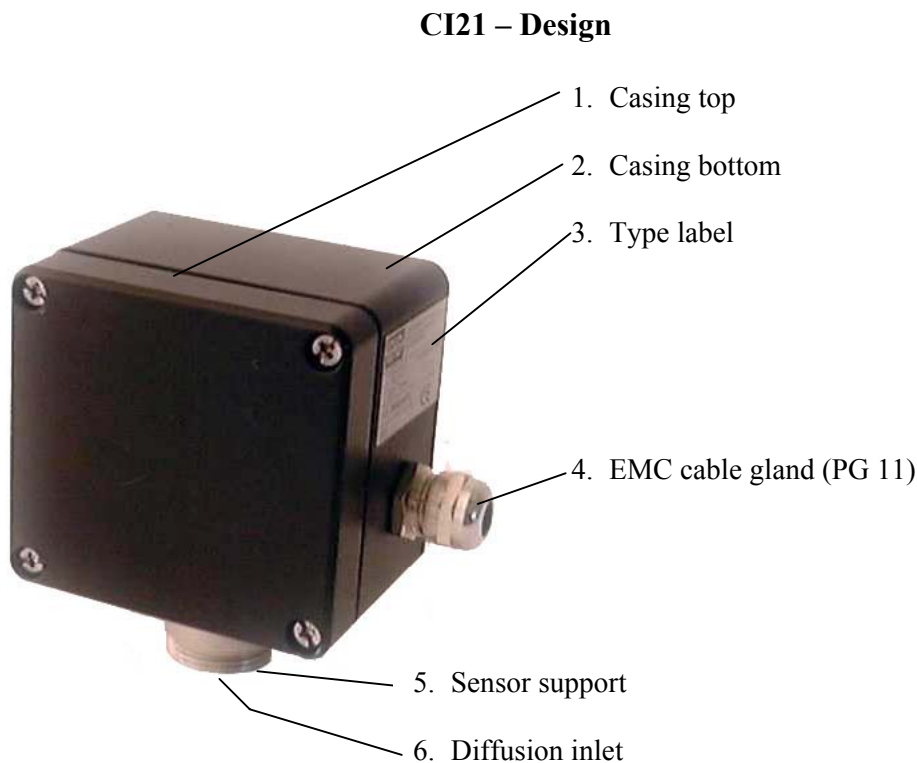

Fig. 2
The design of the CI 21 is shown in fig. 2. The sensor is mounted in the sensor support (pos. 5). The gas enters the sensor chamber through the diffusion inlet (pos. 6). The casing (pos. 2) includes a resin encapsulated p.c.board with electronic components. The electronics convert the measurement signal into the output of 0.2 .. 1 mA or 4 .. 20 mA, which is supplied to the controller by means of cable.